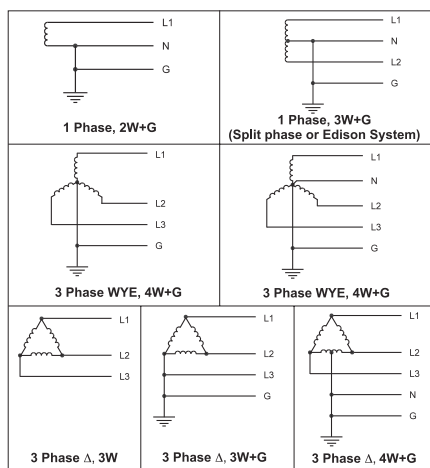

Figure 3. Common Distribution Configurations
- The power distribution type being used (refer to Figure 3) including the grounding method of the supply transformer and any additional grounding supplied in the distribution system.